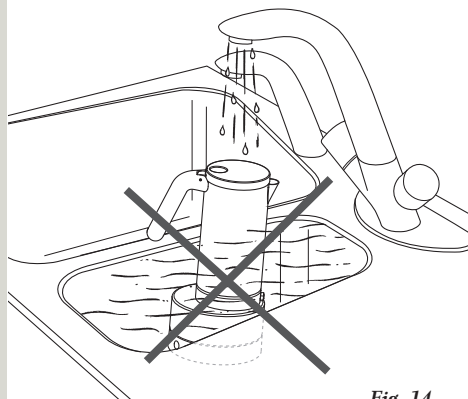

Fig. 14
- Do not place the espresso maker under a jet of running water and do not immerse it in water. (fig. 14)